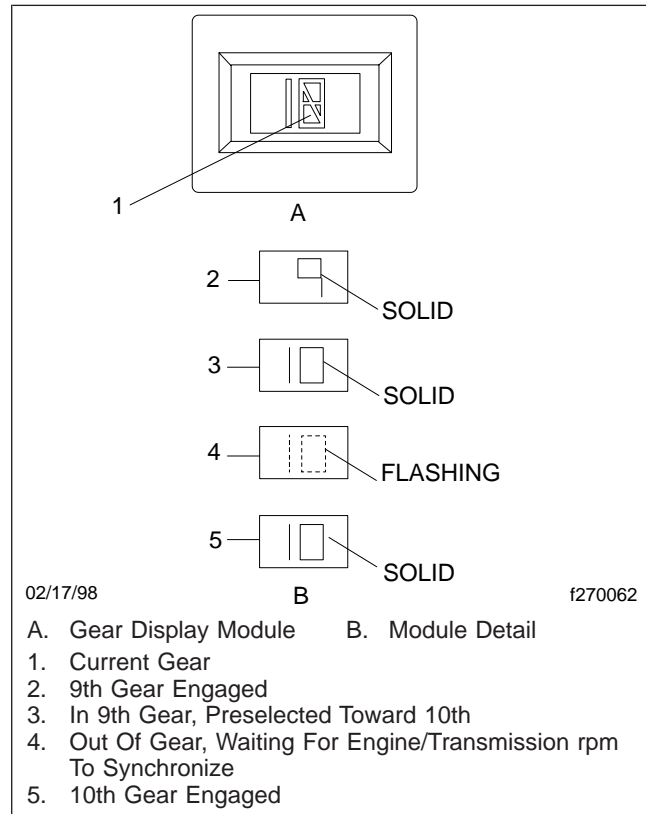

Fig. 8.12, Gear Display Module
- The Gear Display Module (Fig. 8.12), mounted on the dashboard, indicates the current gear position. The display also flashes the next gear
2. Ensure that a solid "N" appears on the gear display module. See Fig. 8.12.